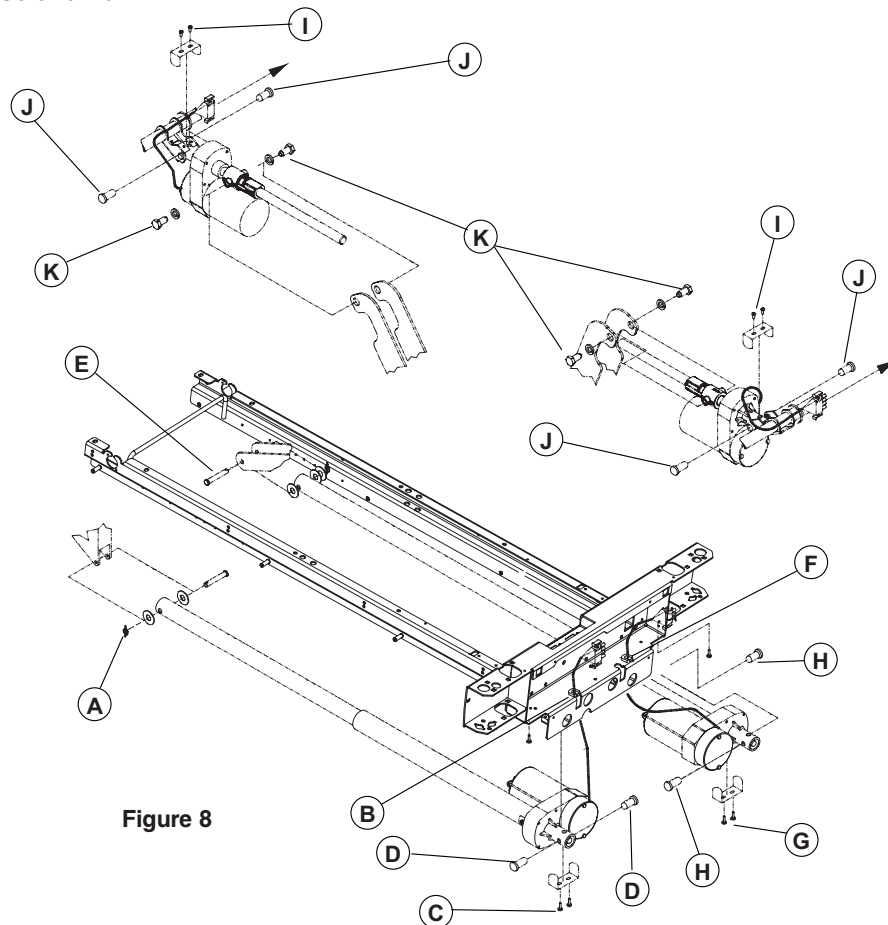

Figure 8
4. Using needle nose pliers, remove the rue ring cotter/washers/clevis pin (E, Figure 8, page 1-40) linking the thigh section lever arms to the thigh actuator tube.
7. Using a #2 Phillips screwdriver, remove the two screws (D) holding the micro switch activator to the thigh section. Install the micro switch activator on the new thigh section.
Unless otherwise indicated, refer to Figure 8, page 1-40, for reference for this procedure.